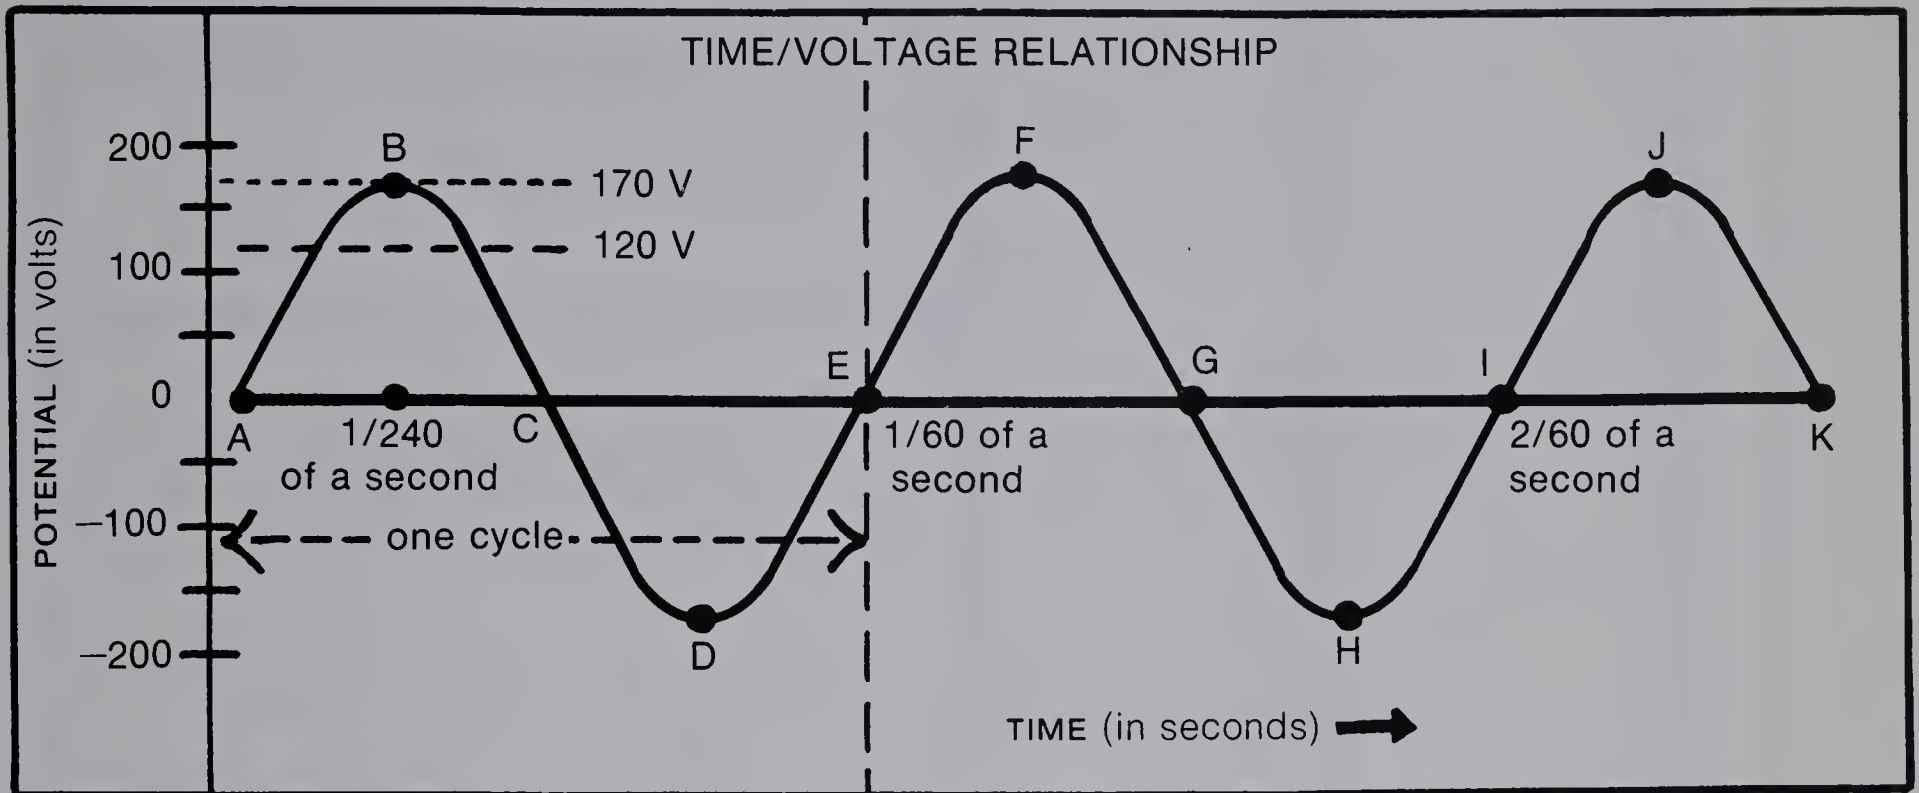

Figure 12-2
Consider what is happening at the wall socket. One of its terminals is grounded and remains steady at ground potential, or zero volts. The potential at the other terminal is varying, as shown in Figure 12-2. If you're not sure you know how to interpret this graph, read *Resource Unit 2*.
- 12-8. In Figure 12-2, how many cycles are completed in one second?
Figure 12-2 shows that the so-called 120-volts AC potential is actually changing constantly. A steady DC potential of 120 volts will cause a light bulb to burn just as bright. It turns out that the effective value of either AC potential or AC current is about $7/10$ of its maximum value. Thus, the potential shown in Figure 12-2 has a maximum positive value of 170 volts and a maximum negative value of 170 volts. Its effective value—120 volts AC in this case—is always positive and can be figured from either the maximum positive or the maximum negative values.